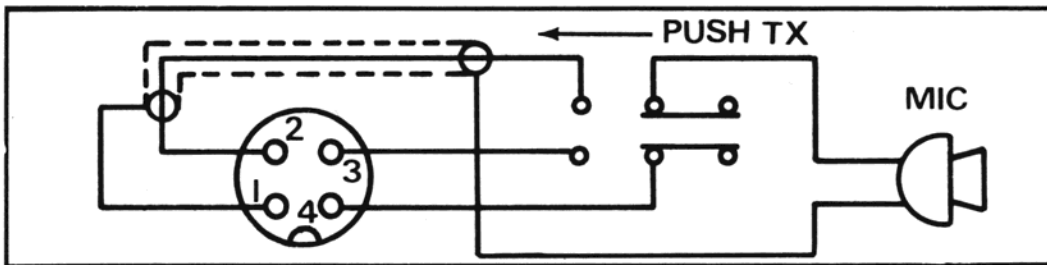

Fig. 3. Cobra 138XLR microphone schematic.
1. Cut leads so that they extend $7/16$ " beyond the plastic insulating jacket of the microphone cable. (See Fig. 3 and 4.)